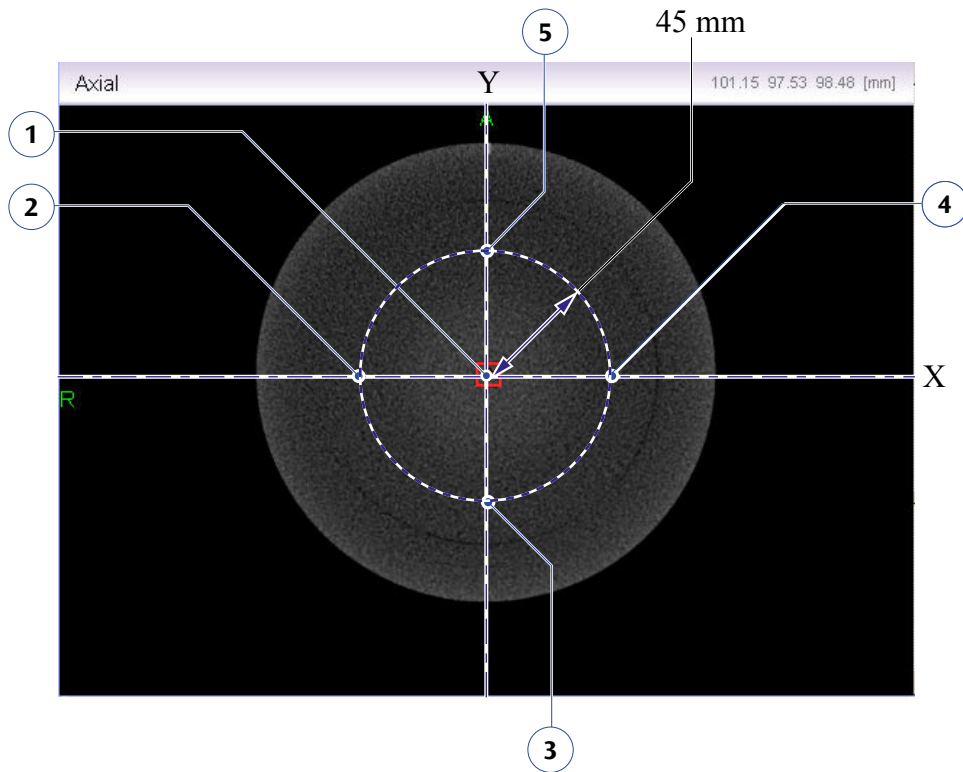

Figure 6.12 Phantom center
- (1) Image probe position
- (2) Marker of the section center
- (3) Handle
- 2 Use the handles (3) at the top of the window to adjust the contrast of the images.
- 5 Set the position of the image probe within ± 3 mm of the phantom center (1), see Figure 6.12. Record the **Mean** pixel value.
The positions 2 - 5 must be 45 ± 1 mm from the phantom center (1), see Figure 6.12.